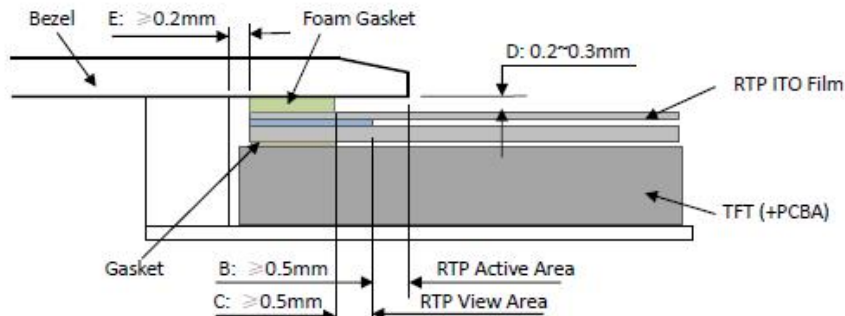

Figure 4
- It should bezel touching the RTP Active Area (A.A.) to prevent abnormal touch.It should left gab  $D=0.2\sim 0.3\text{mm}$  in between. (Figure 4)
- 为避免面框直接压在动作区(A.A.)上造成误动作，面框与电阻触摸屏(RTP)之间应留有一定的空隙  $D=0.2\sim 0.3\text{mm}$  之间。(附图 4)
(between the bezel and RTP).The suggested figures are  $B \geq 0.50\text{mm}$ ;  $C \geq 0.50\text{mm}$ . (Figure 4)
- The bezel side wall should keep space  $E = 0.2 \sim 0.3\text{mm}$  from the RTP. (Figure 4)
边缘到 V. A. 区的距离  $C \geq 0.50\text{mm}$ . (附图 4)
- 在设计面框与 RTP 组装时, 应考虑到面框内侧与 RTP 外侧的间距  $E \geq 0.2\text{mm}$ . (附图 4)